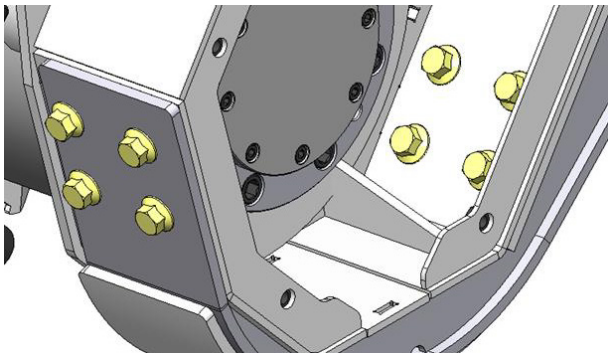

Figure 21
1. Rest the mulcher's skid plates on blocks, elevated off the ground for easier access to the fasteners. See Figure 21.